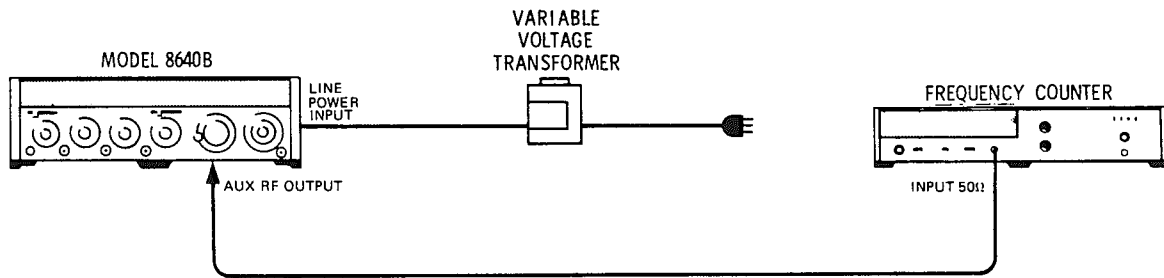

Figure 4-3. Frequency Stability vs Line Voltage Test Setup
- 1. Connect equipment as shown in Figure 4-3 after setting Signal Generator's controls as follows: